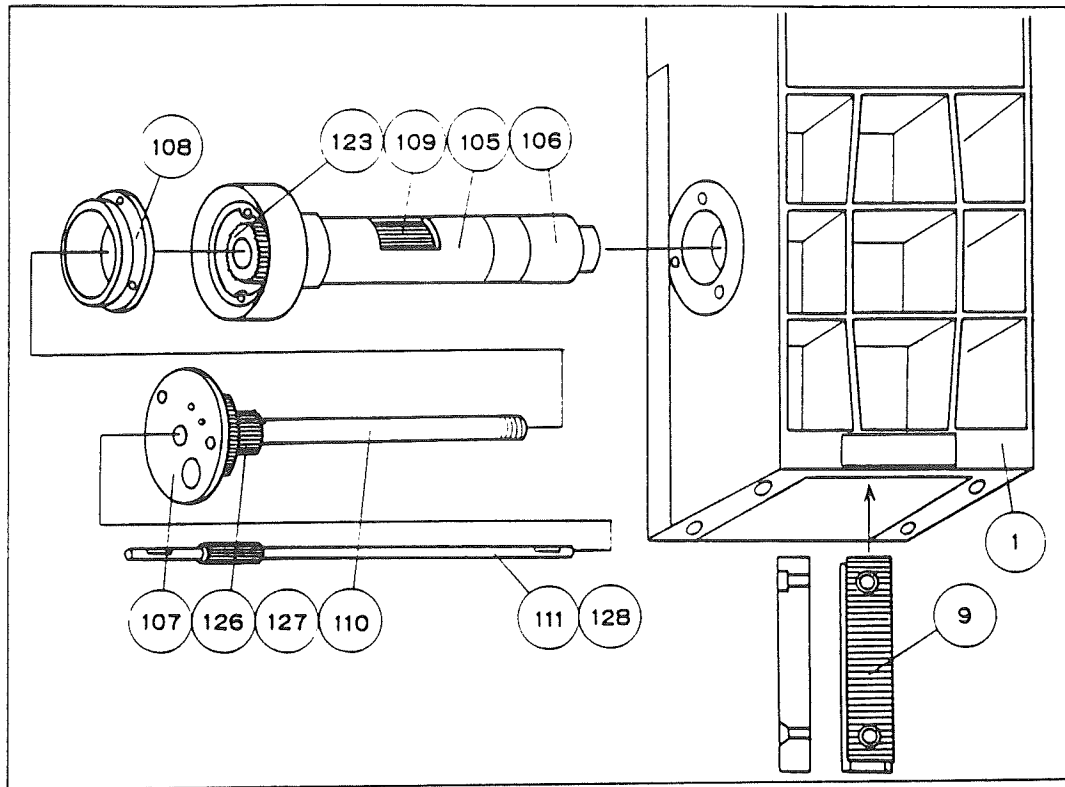
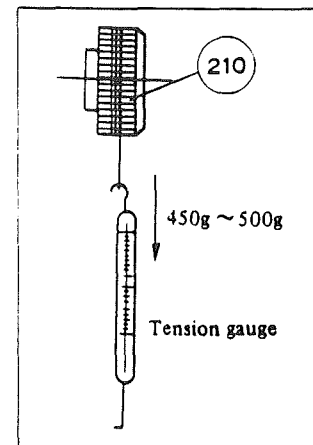

Fig. 37
Fig. 38
- 5) Insert the above subassembly into the arm. (Fig. 37).
- 6) Inserting rack (9) from underneath the arm, attach it to the ball race by means of PM screw (41C) and CM screw (42A). (Fig. 38). After attaching, fix pinion case (105) to the arm by means of screws (41A) x3. (Fig. 37).
- 8) Insert the subassembly consisting of (107) (coarse focus case) and (110) (coarse focus shaft) and (126) and (127) (gears), as shown in Fig. 37 (apply oil to (110) as shown in Fig. 10).
(Measuring procedure: Fig. 38)
- 1) Referring to Reassembly Procedure (P. 32), insert right fine focus knob (101) into fine focus shaft (111) (beforehand, place set screw (142A) into (101)). Pushing the left and right fine focus knobs inwards, fix them in such positions by means of (142A), that a torque of 30g ~ 40g is obtained. (Measuring procedure: Fig. 38).
- 2) Make sure of no thrust slack felt by touching with the finger and no seizure between (101) and right coarse focus knob (103). Also, check for smooth turning of the fine and coarse focus knobs.